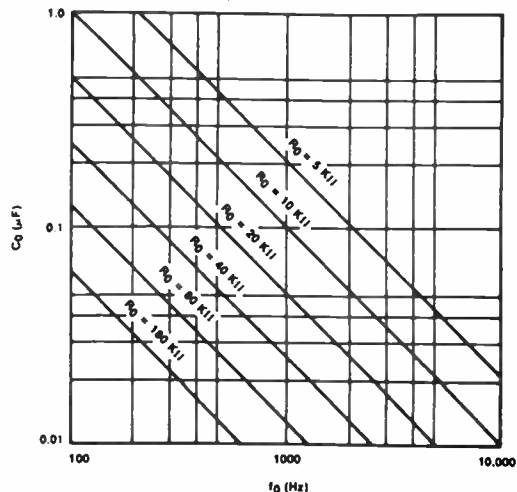

Figure 5. VCO Frequency vs Timing Resistor
**VCO Timing Capacitor (Pins 13 and 14):** VCO frequency is inversely proportional to the external timing capacitor,  $C_0$ , connected across these terminals (see Figure 5).  $C_0$  must be nonpolar, and in the range of 200 pF to 10  $\mu$ F.